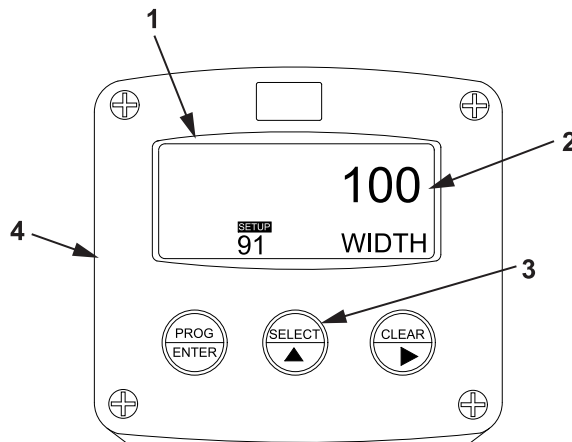

Figure 41. 100 Display.
- b. Verify that 100 (Figure 41, Item 2) appears on the display screen (Figure 41, Item 1). If 100 (Figure 41, Item 2) does not appear, perform the procedure to program tank volume meter monitor settings and select 100 (Figure 41, Item 2).
- c. Press the SELECT key (Figure 41, Item 3) on the tank volume meter monitor (Figure 41, Item 4).